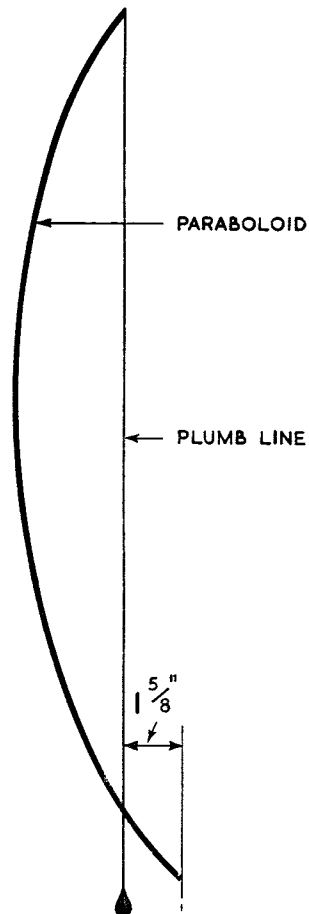

Fig. 18. Correct setting of aerial tilt
- (1) Attach a plumb line to the outer edge of the top of the reflector as shown in fig. 18.
- (2) Check that the line passes a point  $1\frac{5}{8}$  in. behind the outer edge of the bottom of the reflector.
- (3) Repeat (2) with the aerial facing in different directions.